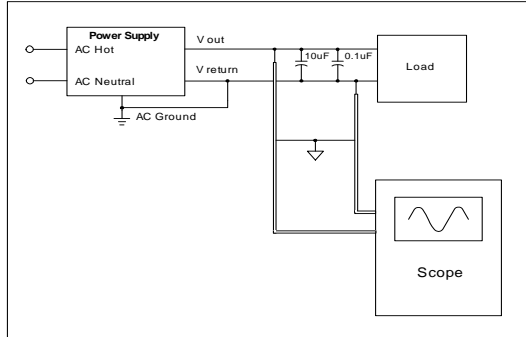

Figure 3. Ripple/Noise voltage test circuit
2.3.3 Figure3. Ripple/Noise voltage test circuit